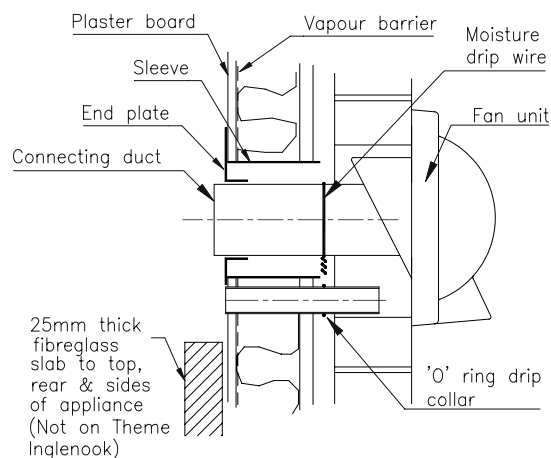

Fig. 6 Timber framed cut out
9. Push the endplate into position. (See Fig. 6)